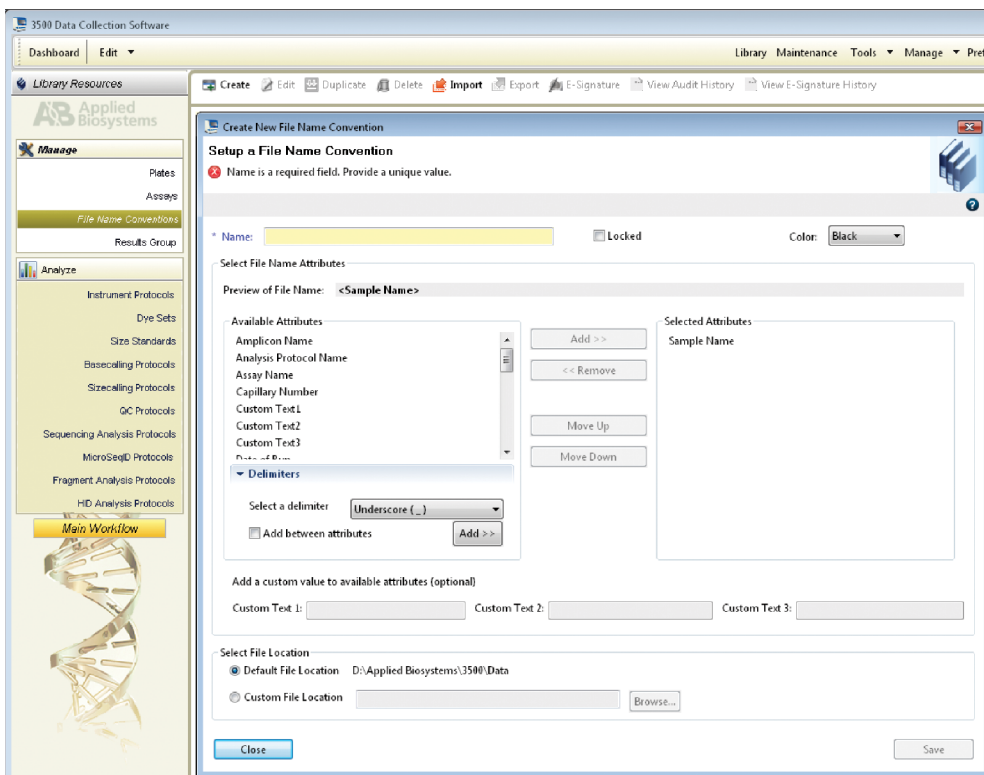

Figure 6. The 'Create New File Name Convention' window.
- 2.e. To create a new File Name Convention (Figure 6), navigate to the Library. Select **File Name Conventions**, and then select **Create**. Alternatively, a previously created File Name Convention can be used.